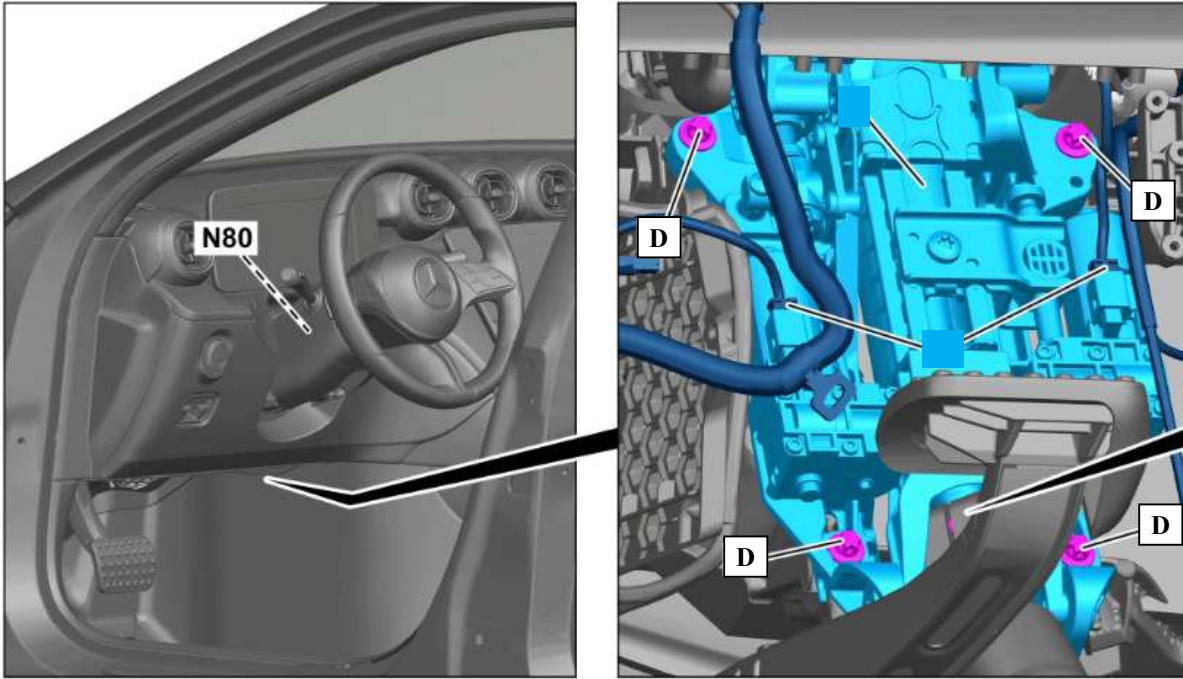

Figure 3
4. Replace the four screws on the steering column (**Figure 3, D**) and torque to **12 Nm** with a **90° tightening angle**.